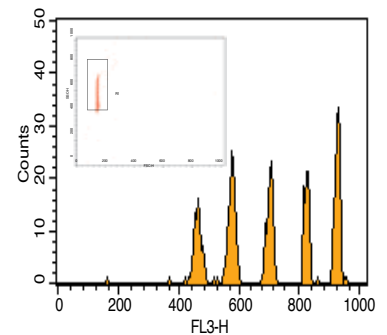

Figure 6
3. Using your flow cytometry analysis software, determine which beads produced positive results. The use of “back-gating” may simplify this task. (Figure 6)